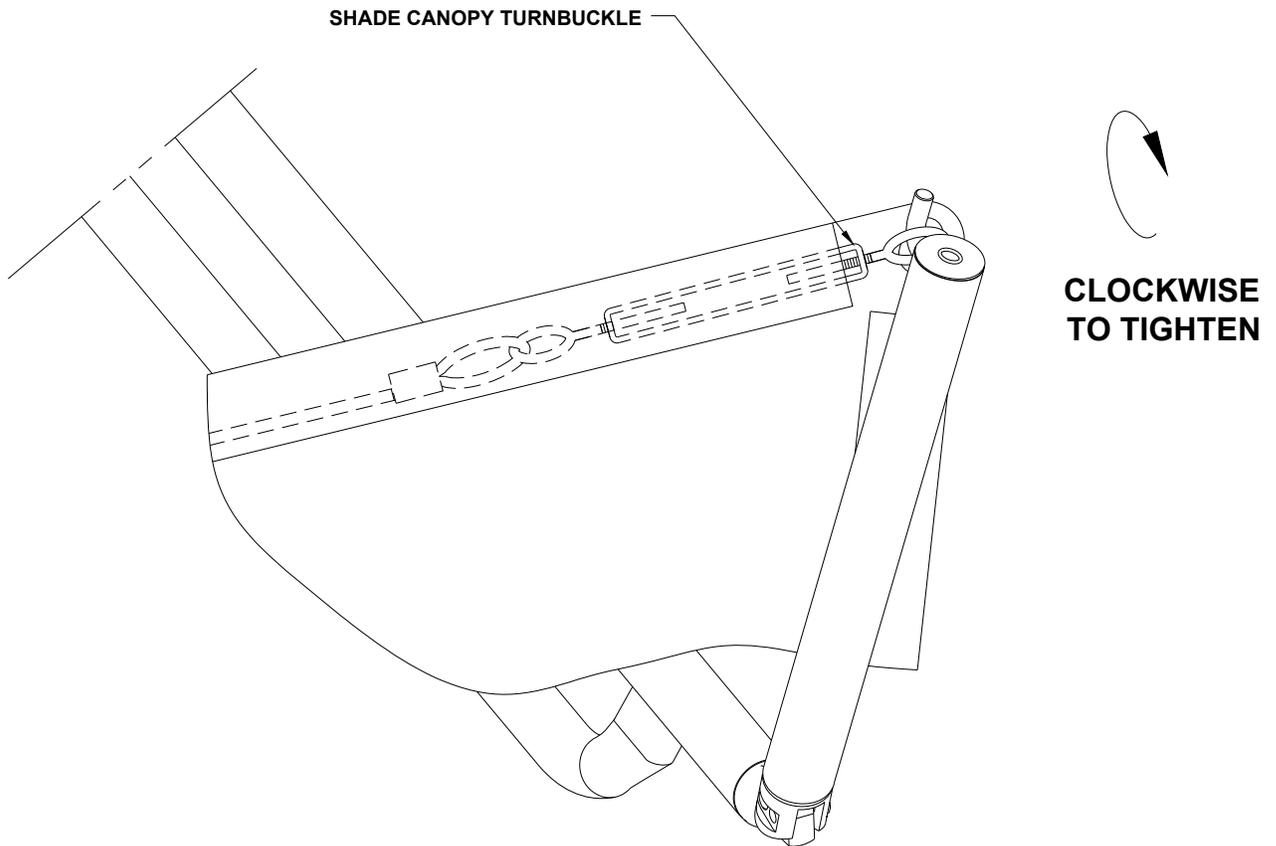

Figure 18: Tightening/Loosening Shade Canopy Turnbuckle
4. Lay ShadePlay canopy over rafters and orientate it so that each tensioning arm has a canopy corner. See Figure 18.
6. Continue to tighten canopy by carefully pulling tensioning arms down into 'Closed Position'. If canopy is too tight to pull arm down, loosen turnbuckle tension a small amount. See Figure 18.
7. After all tensioning arms are in ‘Closed Position’ look around canopy for major wrinkles in fabric. The majority of wrinkles can be removed by moving the tensioning arms back into the ‘Open Position’ and tightening each turnbuckle a small amount. Repeat this process, tightening the turnbuckles only a small amount each time until the major wrinkles are eliminated. Minor wrinkles will disappear with time in the environment and in the stretched state. Tighten all turnbuckles evenly to spread tension. See Figure 18.